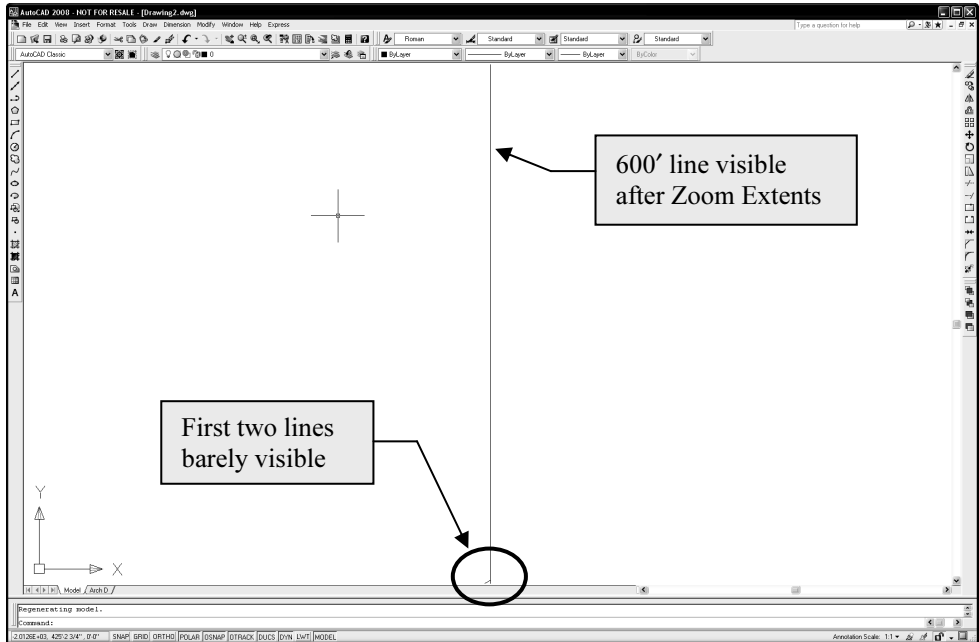

Figure 2-1.12 Drawing with three lines
25. Use **Zoom Extents** to see the entire drawing (Figure 2-1.12).